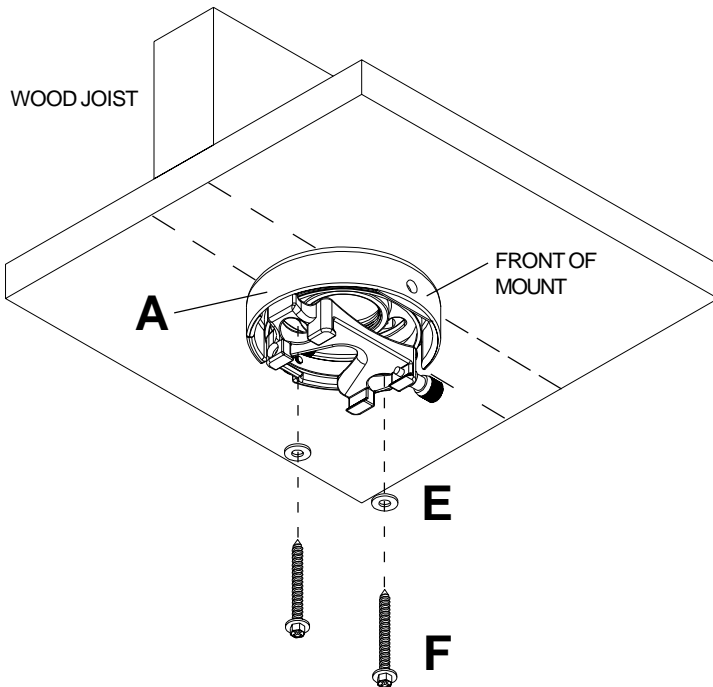
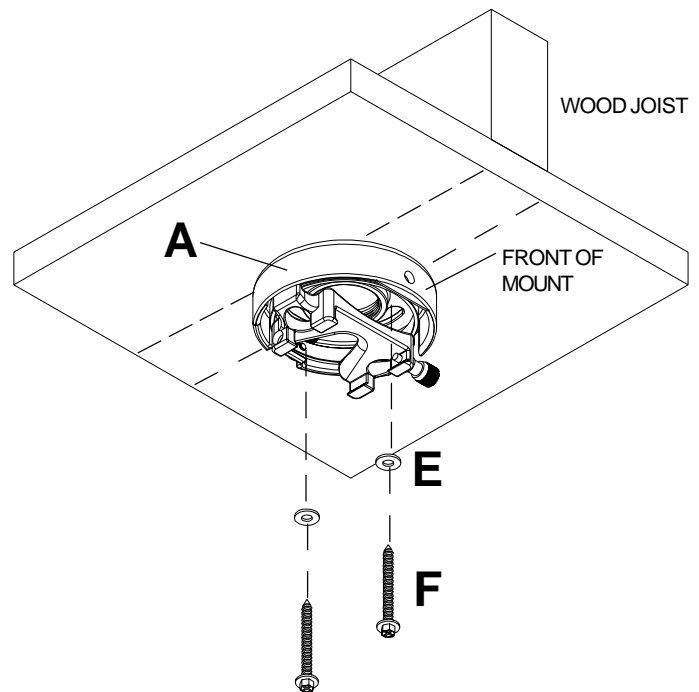

figure 1
figure 2
- 2 Drill two 5/32" (4 mm) dia. holes to a minimum depth of 2.5" (64 mm). Attach projector mount assembly (A) with two #14 x 2.5" (6 mm x 65 mm) wood screws (F) and two flat washers (E) as shown in **figure 1** or **figure 2** depending on joist orientation. Tighten wood screws (F) using 3/8" (10 mm) socket wrench until projector mount assembly (A) is firmly attached.